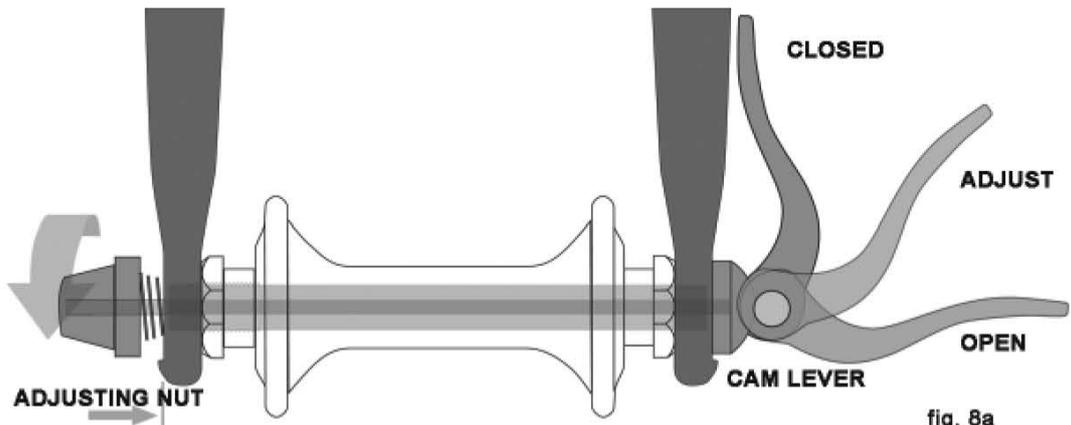

fig. 8a
There are currently two types of over-center cam wheel retention mechanisms: the traditional over-center cam (fig. 8a) and the cam-and-cup system (fig. 8b). Both use an over-center cam action to clamp the bike's wheel in place. Your bicycle may have a cam-and-cup front wheel retention system and a traditional rear wheel cam action system.
a. Adjusting the traditional cam action mechanism (fig. 8a)
- (2) If your bike has cam action front wheel retention, move the cam lever from the locked or CLOSED position to the OPEN position (fig. 8a & b). If your bike has through bolt or bolt-on front wheel retention, loosen the fastener(s) a few turns counter-clockwise using an appropriate wrench, lock key or the integral lever.
- (3) If your front fork has a clip-on type secondary retention device, disengage it. If your front fork has an integral secondary retention device, and a traditional cam action system (fig. 8a) loosen the tension adjusting nut enough to allow removing the wheel from the dropouts. If your front wheel uses a cam-and-cup system, (fig. 8b) squeeze the cup and cam lever together while removing the wheel. No rotation of any part is necessary with the cam-and-cup system.
- (2) With the steering fork facing forward, insert the wheel between the fork blades so that the axle seats firmly at the top of the fork dropouts. The cam lever, if there is one, should be on rider's left side of the bicycle (fig. 8a & b). If your bike has a clip-on type secondary retention device, engage it.
- (3) If you have a traditional cam action mechanism: holding the cam lever in the ADJUST position with your right hand, tighten the tension adjusting nut with your left hand until it is finger tight against the fork dropout (fig. 8a). If you have a cam-and-cup system: the nut and cup (fig. 8b) will have snapped into the recessed area of the fork dropouts and no adjustment should be required.
- (4) While pushing the wheel firmly to the top of the slots in the fork dropouts, and at the same time centering the wheel rim in the fork:
- (a) With a cam action system, move the cam lever upwards and swing it into the CLOSED position (fig. 8a & b). The lever should now be parallel to the fork blade and curved toward the wheel. To apply enough clamping force, you should have to wrap your fingers around the fork blade for leverage, and the lever should leave a clear imprint in the palm of your hand.
- (1) With a cam action system, move the cam lever to the OPEN position (see fig. 8a & b). The lever should be on the side of the wheel opposite the derailleur and freewheel sprockets.
- (2) On a derailleur bike, make sure that the rear derailleur is still in its outermost, high gear, position; then pull the derailleur body back with your right hand. Put the chain on top of the smallest freewheel sprocket.
- (3) On single-speed, remove the chain from the front sprocket, so that you have plenty of slack in the chain. Put the chain on the rear wheel sprocket.
- (4) Then, insert the wheel into the frame dropouts and pull it all the way in to the dropouts.
- (5) On a single speed or an internal gear hub, replace the chain on the chainring; pull the wheel back in the dropouts so that it is straight in the frame and the chain has about 1/4 inches of up-and-down play.
- (6) With a cam action system, move the cam lever upwards and swing it into the CLOSED position (fig. 8a & b). The lever should now be parallel to the seat stay or chain stay and curved toward the wheel. To apply enough clamping force, you should have to wrap your fingers around the fork blade for leverage, and the lever should leave a clear imprint in the palm of your hand.
- (7) With a through-bolt or bolt-on system, tighten the fasteners to the torque specifications in Appendix C or the hub manufacturer's instructions.
Some bikes are equipped with a cam action seat post binder. The seat post cam action binder works exactly like the traditional wheel cam action fastener (Section 4.A.2) While a cam action binder looks like a long bolt with a lever on one end and a nut on the other, the binder uses an over-center cam action to firmly clamp the seat post (see fig. 8a).